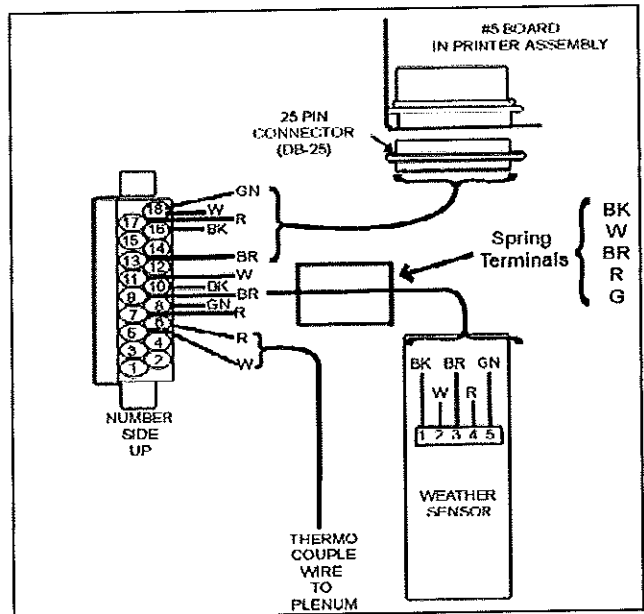

Figure 4
The (5) wire cable from the sensor board is pulled up through the bushing and the mount housing is secured to the bottom of the cabinet by turning the bushing into the mount housing until tight. Now place the (5) wires listed above into their correct terminals and tighten. **See Figure 4.**
A length of (5) wire cable will probably have to be spliced and soldered to the 8 ft. (2.44m.) cable supplied with the weather sensor to reach the distance selected from the dryer. Be sure to allow 36" (92cm.) from the bottom of the remote cabinet to the (36) pin black connector at the top inside of the cabinet. **See Figure 4.**